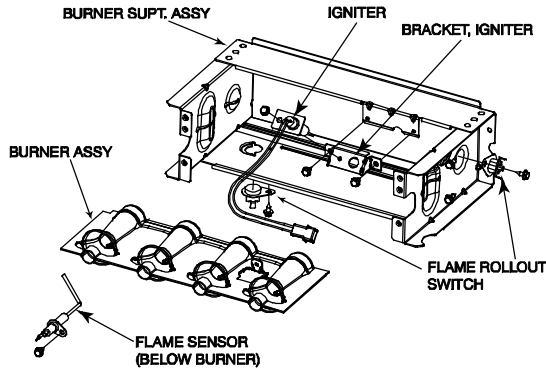

Fig. 66 - Burner Assembly
Refer to Fig. 66.
- Using a 1/4-in. driver, remove the two screws securing the igniter mounting bracket to the burner assembly. See Fig. 66.
- To replace igniter and bracket assembly, reverse items 5a through 5d.
- Reconnect igniter harness to the igniter, dressing the igniter wires to ensure there is no tension on the igniter itself. See Fig. 66.